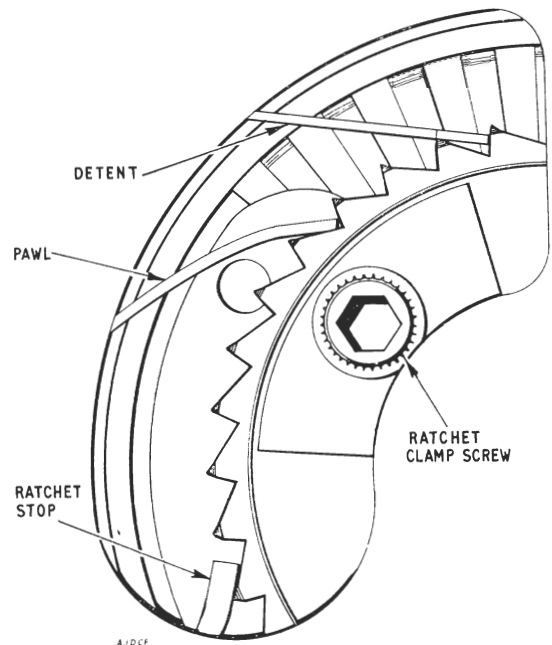

FIG. 8
- (b) fully engage the short face of the 3rd tooth in advance of that occupied by the pawl when the armature is normal (see Fig. 8)
If readjustment is necessary support the wiper assembly on its spindle, slacken the ratchet wheel clamping screw (see Fig. 8) and rotate the wiper blades until the correct conditions are obtained. Re-tighten the clamping screw.